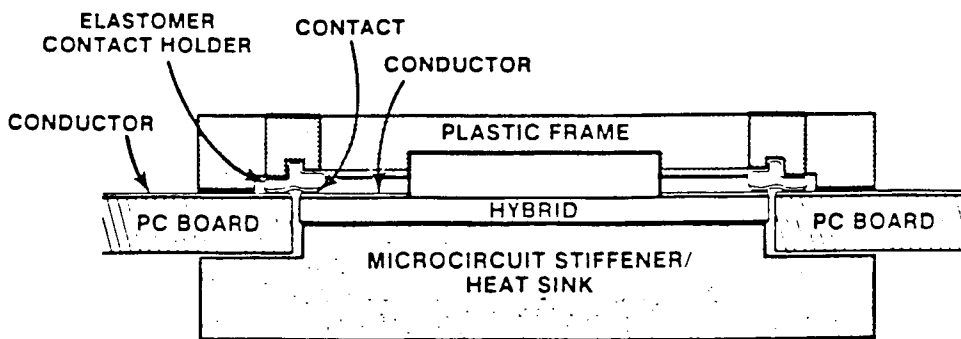

Figure 3. - Hypcon assembly removal and replacement.
- () 1. Replace A1U310 and A1U410, vertical pre-amp microcircuits, with the new microcircuits, pn 165-2089-05, provided in this kit. For disassembly and replacement of the microcircuit from the Hypcon assembly connector refer to the following steps. Refer to Figure 3, for component locations.
Refer to Figure 3, Hypcon assembly removal and replacement. When replacing the hybrid, do not touch the elastomer's gold-plated contacts with your fingers. Use a cleaner (such as alcohol) that will not lessen contact reliability. The Hypcon socket contacts are fragile. Use caution when removing and replacing a Hypcon to avoid damaging these contacts.
Because of close tolerances involved, special care must be taken to ensure correct index alignment of each Hypcon part during reassembly. Refer to Figure 3 for the index locations. Failure to do so can result in a cracked hybrid substrate.